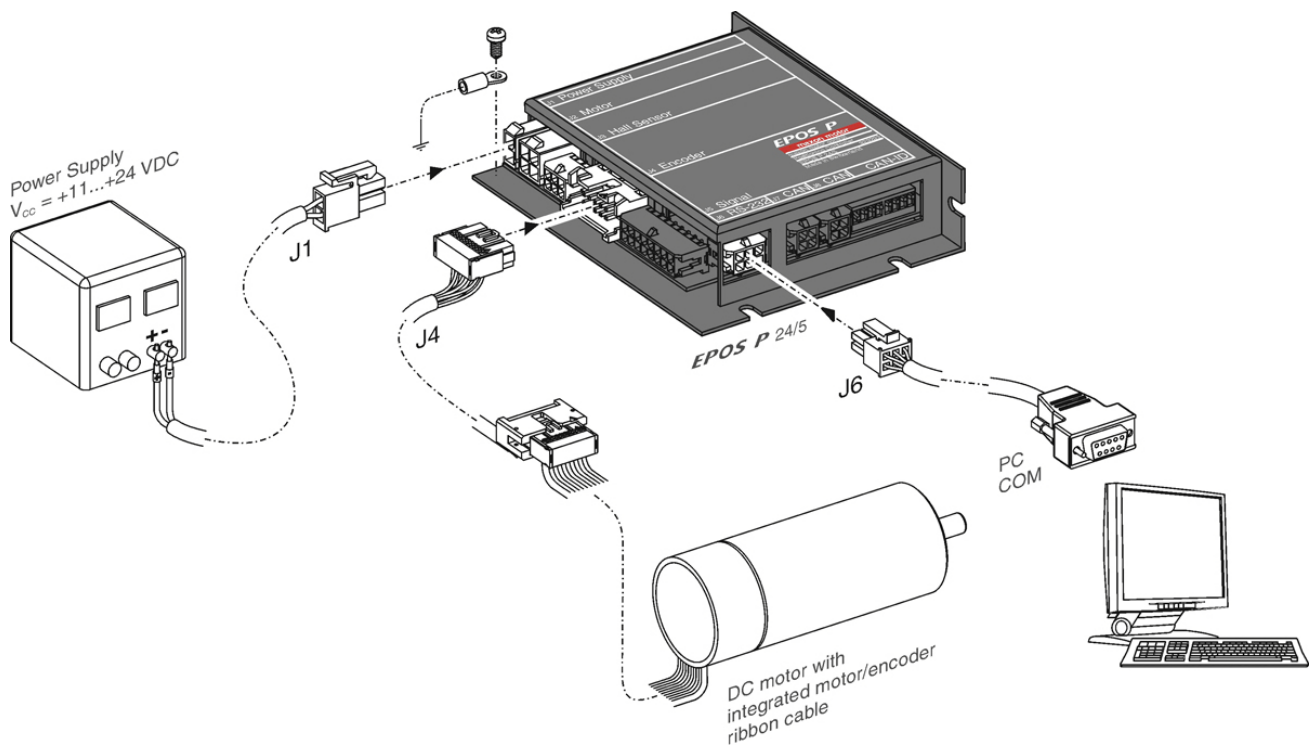

Figure 3-6 Minimum Wiring: maxon DC motor with integrated motor/encoder ribbon cable
- 2) Connect maxon cable assemblies (→ Table 3-6 and Figure 3-6).